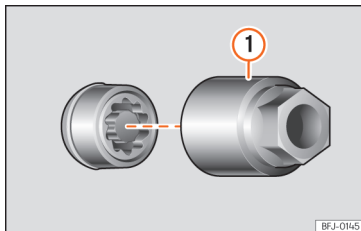

Fig. 34 Anti-theft wheel bolt with cap and adapter.
- Insert the special adapter »»» Fig. 34 ① [vehicle tools »»» page 43] onto the anti-theft wheel bolt and push it on as far as it will go.